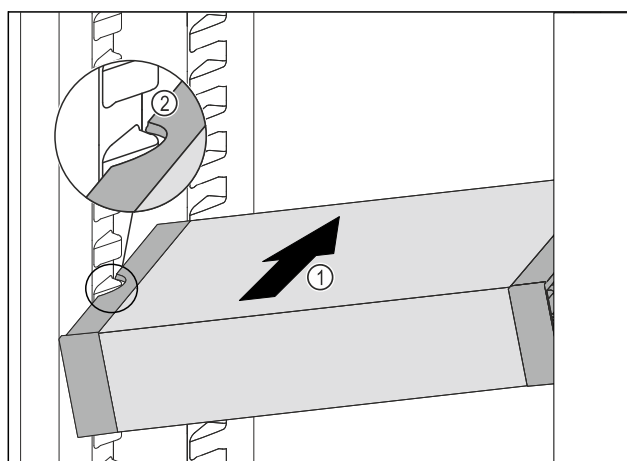

Fig. 147
- Insert the VarioSafe into the fridge section at an angle Fig. 147 (1) until the recesses in the side Fig. 147 (2) of the VarioSafe are at the level of the support rib in the fridge section.